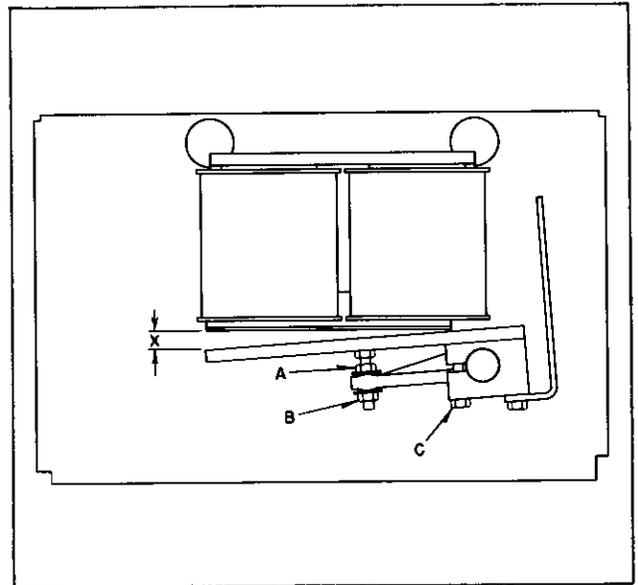

FIG. 4
The gap "X" (shown in Fig. 4) at the magnet armature with the armature closed to the contact touch position, is a convenient measure of contact overtravel. With new contacts the contact overtravel should be measured at point "X" and adjusted as follows:
- 1) Loosen the two bolts "C" in Fig. 4, which clamp the magnet armature to the shaft.
- 3) Adjust the locknuts "A" and "B" in Fig. 4 either up or down, and lock them in position when the gap at "X" is  $\frac{3}{16}$ "  $\pm$   $\frac{1}{64}$ ".